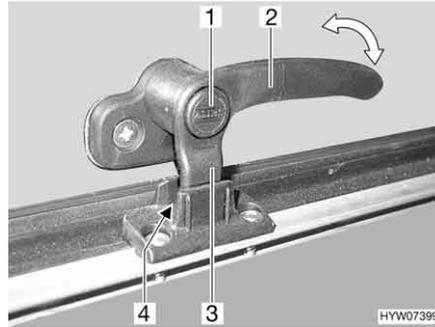
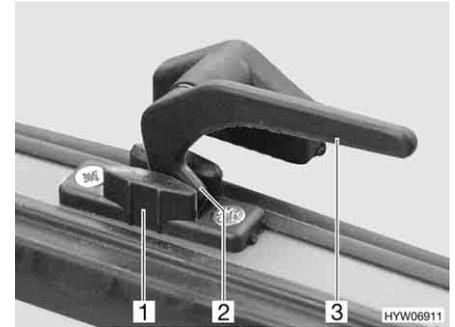

Fig. 96 Catch lever with safety knob in "continuous ventilation" position
Fig. 97 Catch lever in the "continuous ventilation" position
- "Continuous ventilation" (Fig. 96 and Fig. 97)
- Press and hold the security button (Fig. 96,1), if present.
- Turn the catch lever (Fig. 96,2 or Fig. 97,3) a quarter turn towards the centre of the window.
- Return the catch lever to its initial position. Move the locking catch (Fig. 96,3 or Fig. 97,2) on the catch lever into the recess of the window catch (Fig. 96,4 or Fig. 97,1).